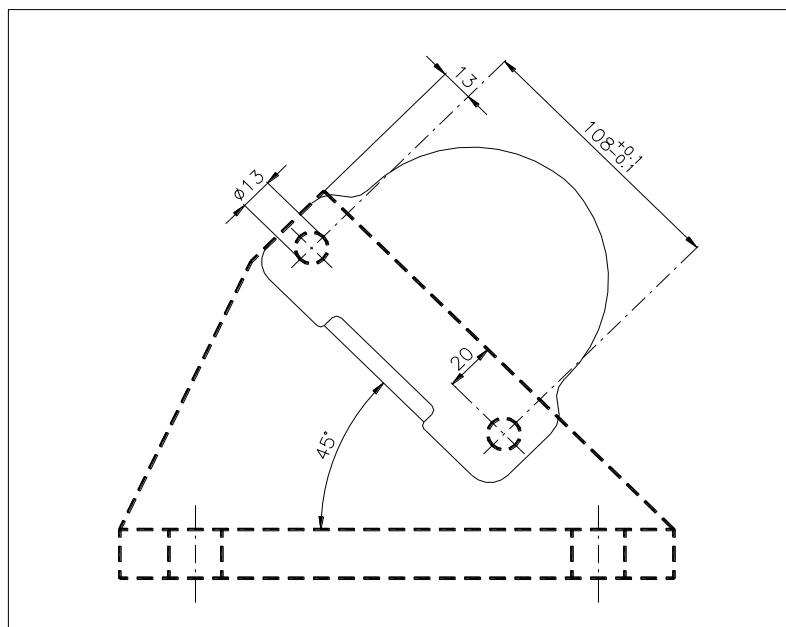

Figure 2
- The brake can also be mounted on a bracket if the thickness of the disc is greater than 12.7 mm or 8 mm (Figure 2). The thickness of the bracket must be 12.7 mm or 8 mm less than the thickness of the disc. In this case too, the brake is anchored using two class 12.9 M12 screws with a tightening torque of 130 Nm. The two caliper halves must be separated obviously by removing the screws C61407 (or the screws C61415 for ID 800 brake with thickness disc 8 mm).